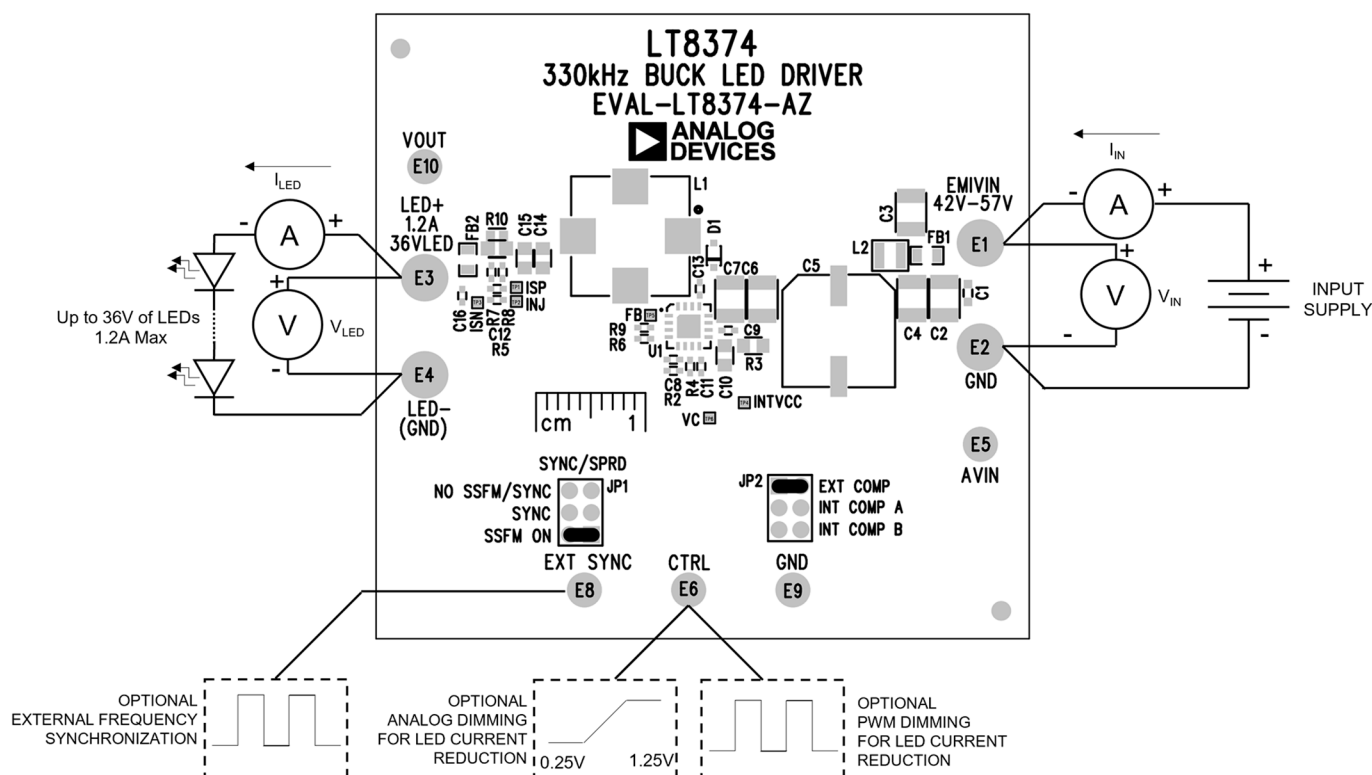

Figure 2. Setup Drawing for EVAL-LT8374-AZ
1. With power off, connect a string of LEDs that will run with forward voltage less than or equal to 36V at 1.2A to the LED+ and LED- turrets on the PCB as shown in Figure 2.